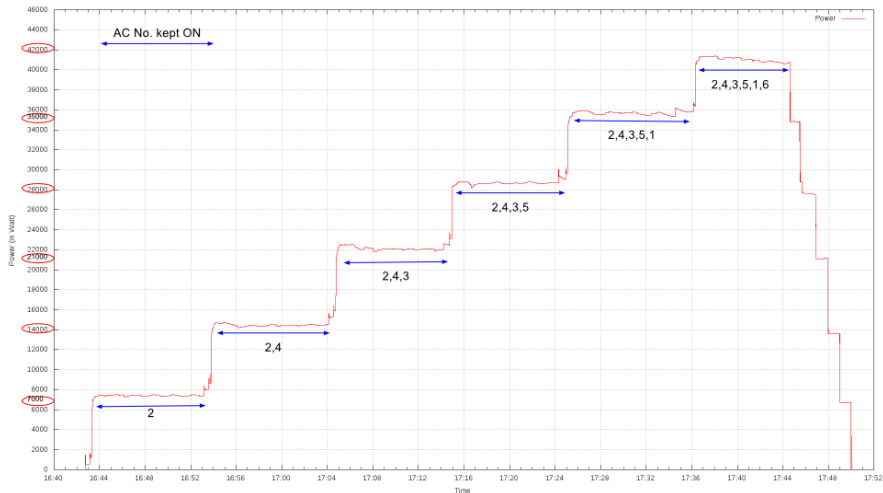

Figure 5 : Cumulative Power Consumption of Air Conditioning Units
- **Inferred from Figure 5:** Cumulative power consumption of these air conditioning units, show a huge difference of around 7000 watts per air conditioning unit